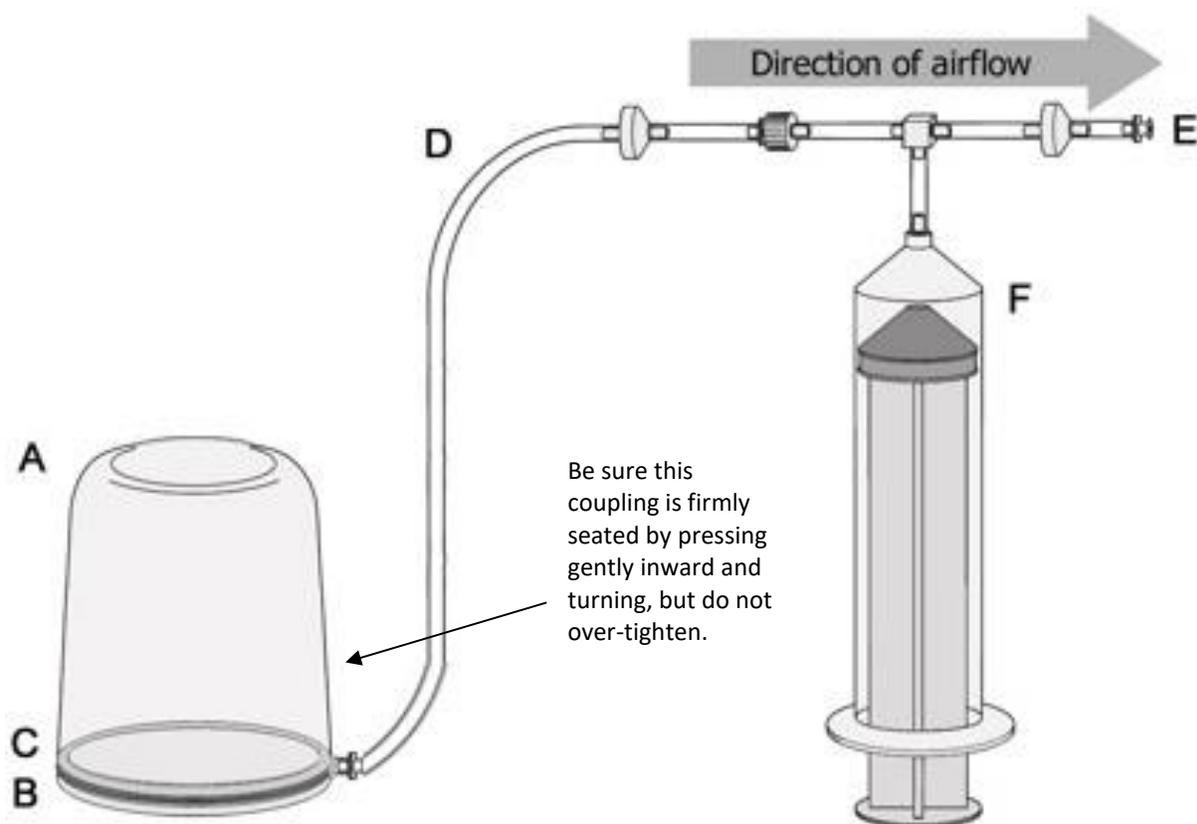

Figure 1.
1. Assemble the apparatus as shown in Figure 1. The check valves will easily allow air to flow in the direction shown by the arrows, but not in the other direction. Also check to make sure that the coupling at the end of hose D is inserted into the hole in the base and is secure, but not so tight that it cannot be easily removed. What is inside the bell jar now? (Hint: "Nothing" is not the correct answer.)